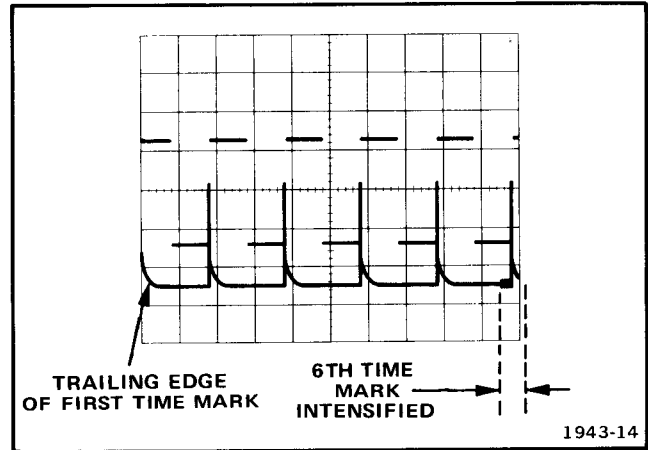

Fig. 5-13. Rough calibrator frequency check.
c. CHECK—Approximately 1 cycle of calibrator waveform per time-mark (see Fig. 5-13).